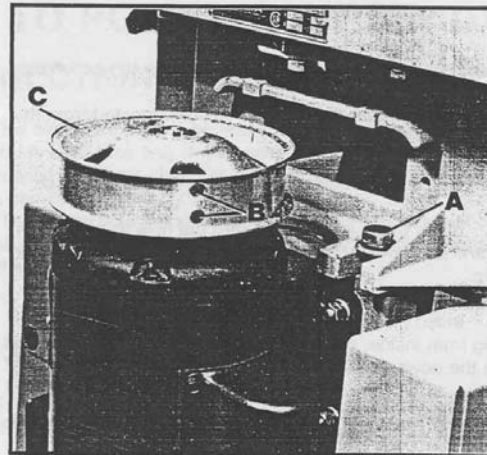
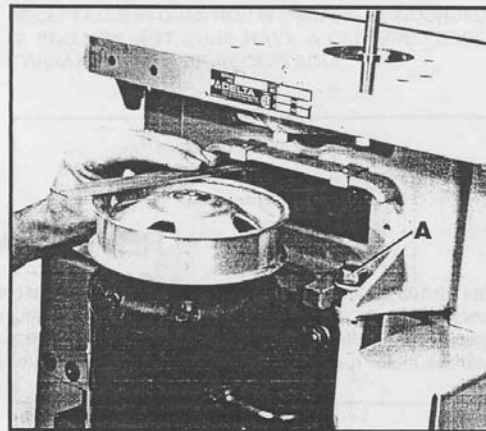

Fig. 5
Fig. 7
1. Place motor and motor plate on rear of shaper, with cap screws (A) in slots of rear table support, as shown in Fig. 5, and tighten cap screws.
1. Place motor pulley (C) on motor shaft as shown in Fig. 5, and tighten two set screws (B) in the pulley against the key or flat of motor shaft. If pulley does not readily slip on to motor shaft, do not force it. Check the motor shaft and the hole in the pulley for any burrs or other obstructions which should be removed. If necessary clean up the hole in the pulley by using a round file or piece of sandpaper wrapped around a small dowel rod.
2. When the spindle is at the top position the top edge of the motor pulley and the top edge of the spindle pulley must be in line. Use a straight edge to align pulleys as shown in Fig. 7, and tighten motor mounting bolts. If necessary, the set screws in the pulley (B) Fig. 5, may be loosened and the pulley can be moved up or down on the motor shaft.
3. Assemble the belt to the two pulleys and adjust for correct belt tension by loosening two cap screws (A) Fig. 7, and move motor mounting plate in or out.